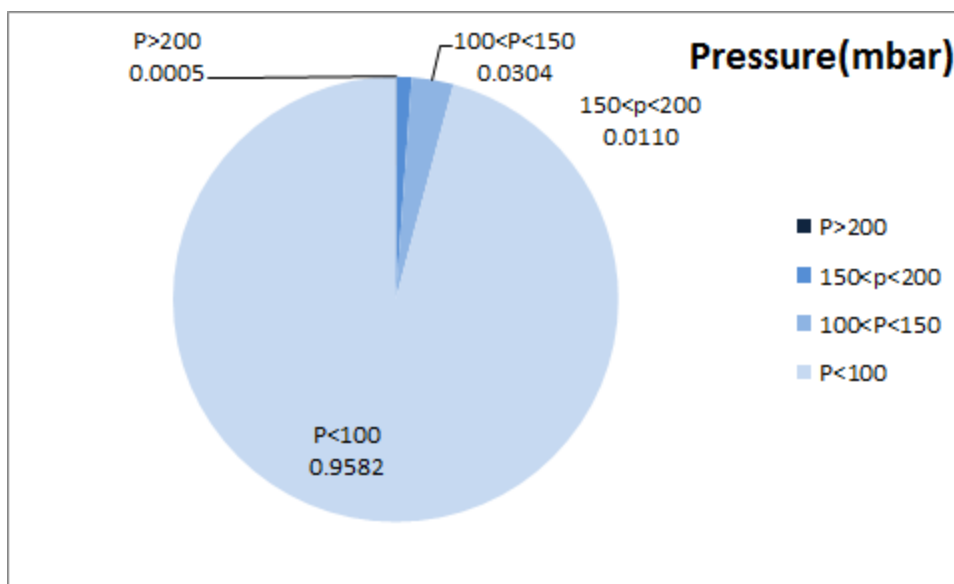

Figure 1- Pressure distribution over the working hours
- As depicted in Figure 1, 0.05% of total working time pressure is above 200 mbar and 3.05% above 150mbar.